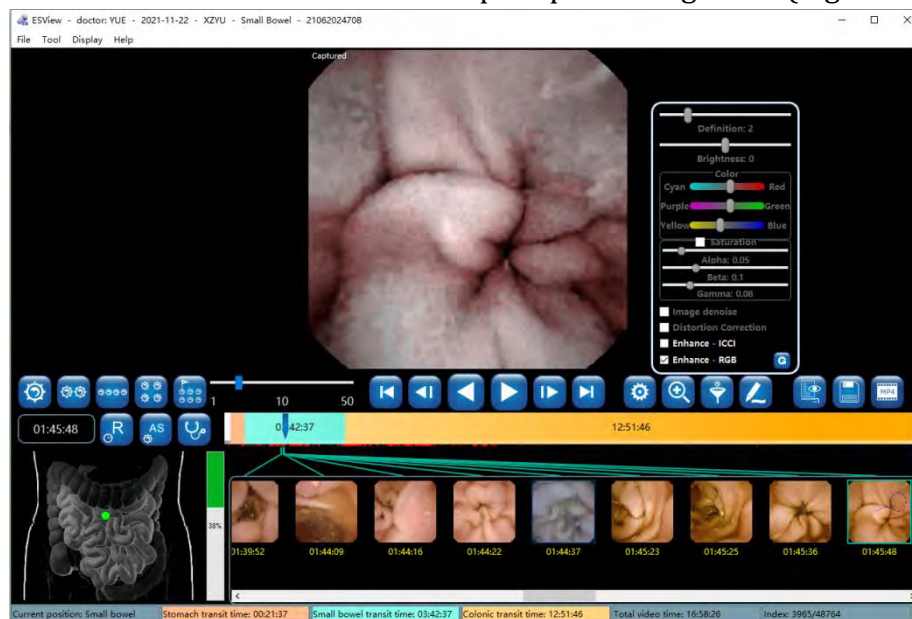

Figure 4-35: Image Enhancement - RGB
5. Check the “Enhance - RGB” box to achieve the post-processing effect (Figure 4-35).